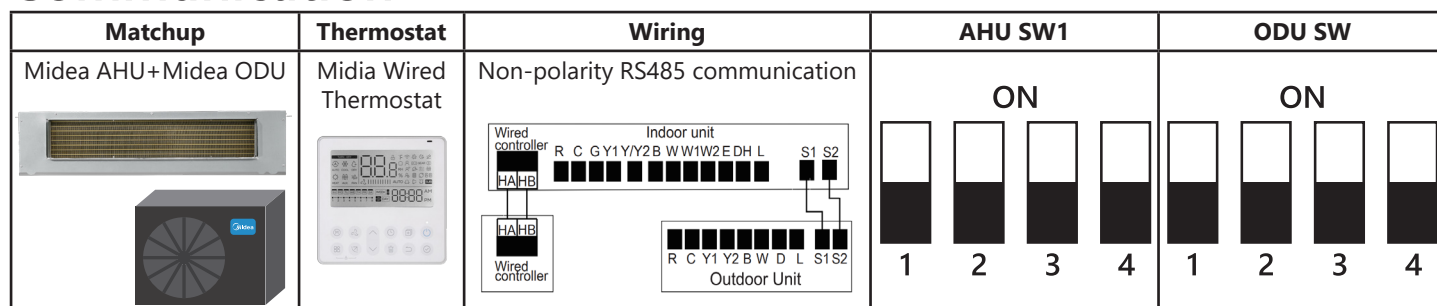

Fig. 6-3: Scenario 2 Wiring Diagram
- All connections between the indoor and outdoor units must be made as shown in Fig. 6-3